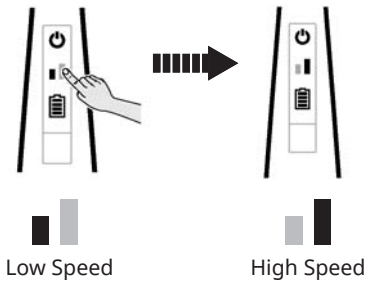

Fig.13
- To change power setting, touch the speed indicator icon for desired power setting (Low or High). (Fig.13)